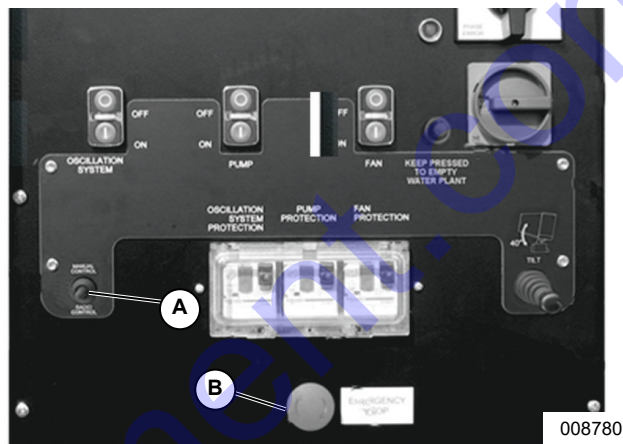

Figure 3-8. Control Panel
1. See *Figure 3-8*. Move control switch (A) to RADIO CONTROL.
2. Verify emergency switch (B) is in the out, armed position. If emergency switch is not armed, twist counterclockwise to reset.